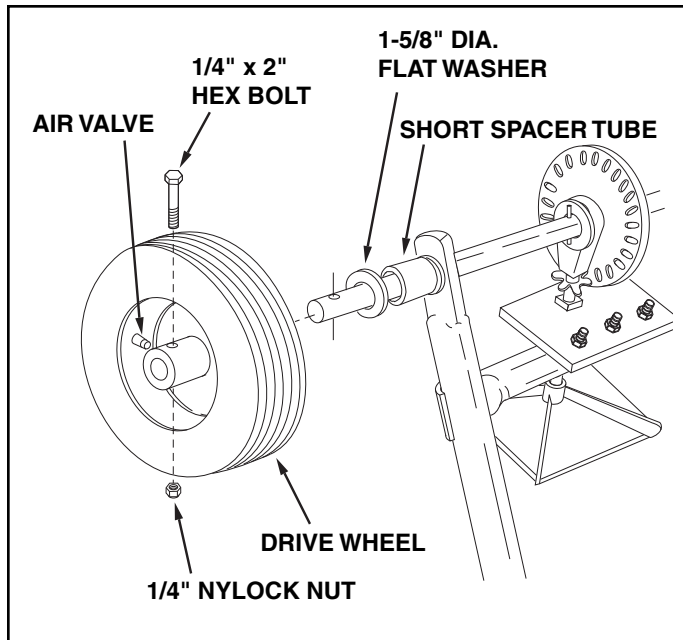

FIGURE 4
9. Assemble the short spacer tube and a 1-5/8" flat washer onto the end of the axle that has the large hole. See figure 4.
10. Place the drive wheel (bolt hole through hub) onto the axle so that the air valve is to the outside. Secure the wheel to the axle with a 1/4" x 2" hex bolt and a 1/4" nylock nut. See figure 4.
1. If the axle, slotted gear and sprocket assembly is disassembled, mark down the positions of the parts as they are removed. The drive wheel and sprocket positions in relation to the slotted gear determine which direction the spreader plate will spin. Be sure to reassemble them in their original positions. (Refer to figure 4 on page 5.) Use shim washers (Ref. no. 21 on pages 10 and 11) as needed for minimum backlash. Add grease to gear and sprocket.